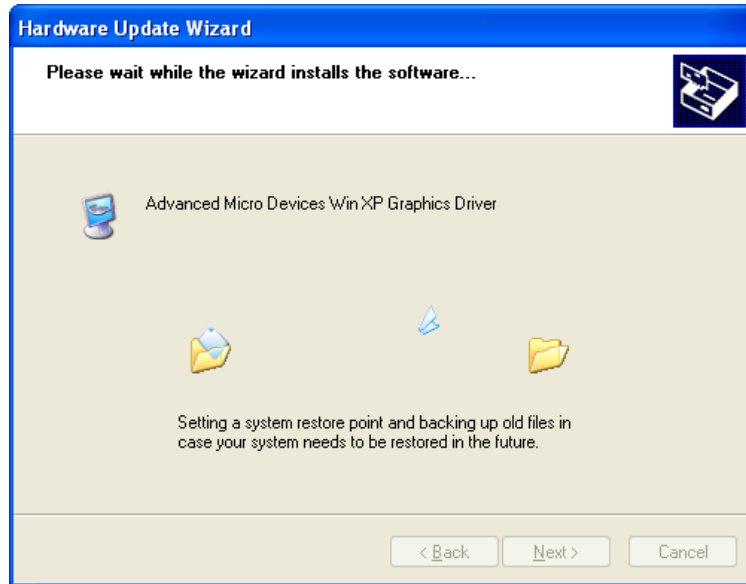

Figure 7-15: Driver Installation Window
Step 21: The following window (Figure 7-15) appears as the driver is installed.